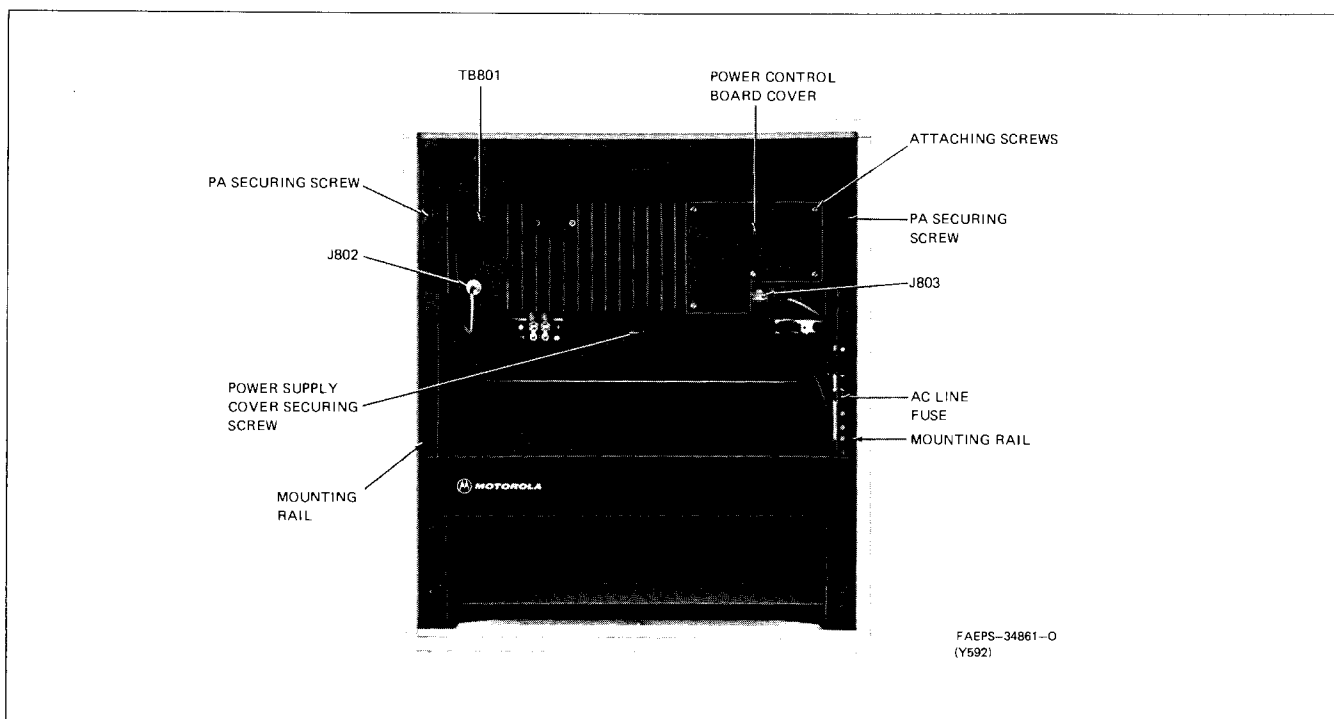

Figure 1. PA and Power Supply Detail of Intermittent Duty Station
**5.1.2** The ac line fuse is located on the front side of the junction box at the right-hand side of the cabinet (refer to Figures 1 and 3). To replace the fuse, disconnect the
**5.2.1.1** To gain access to the power control board for servicing and metering, remove the 5 screws holding the cover over the power control board area of the PA casting (refer to Figure 1).
(Refer to Figures 1 and 3.)
**5.7.2** To gain access to the power supply chassis, remove the power supply cover plate located under the PA chassis. It is retained by a single screw in the upper center of the cover (refer to Figures 1 and 3). For continuous duty stations, remove the top power supply cover plate located directly behind the PA chassis. It is re-